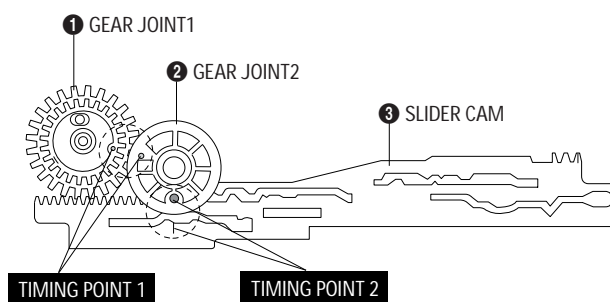

Fig. 5-20 Gear Joint 1,2 Assembly
- 1) Be sure to align dot mark of Gear Joint 1 ❶ with dot mark of Gear Joint 2 ❷ as shown Fig 5-20. (Refer to Timing point1)
- 2) Confirm the Timing Point 2 of the Gear Joint 2 ❷ and Slider Cam ❸.